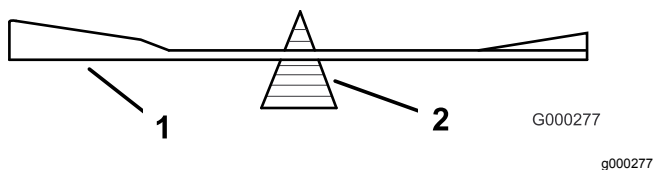

Figure 107
2. Check the balance of the blade by putting it on a blade balancer (Figure 107).